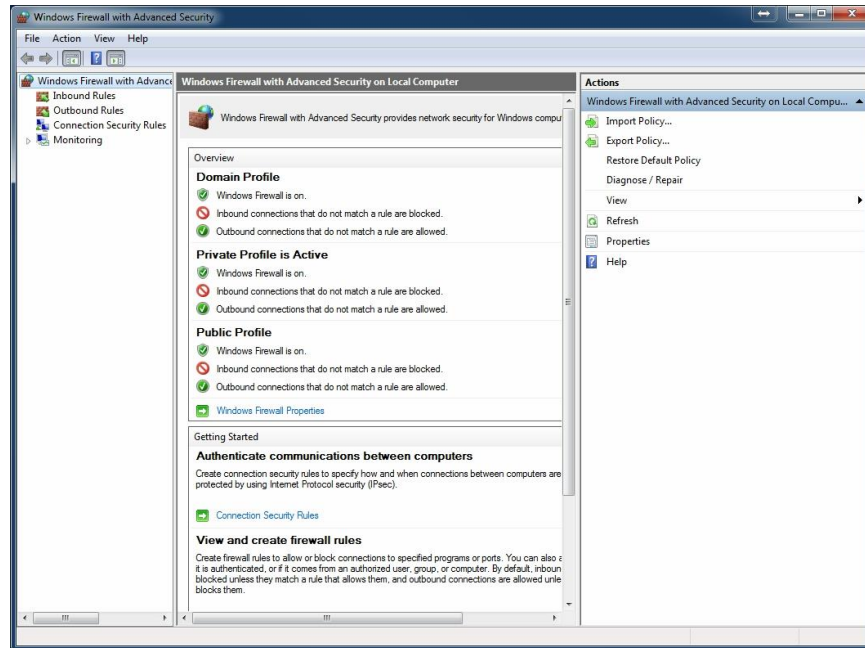

Figure 3-10 Windows Firewall – Advanced Security Inbound Rules
Step 4: From the window shown in Figure 3-10, select the "Inbound Rules" from the left-hand menu.